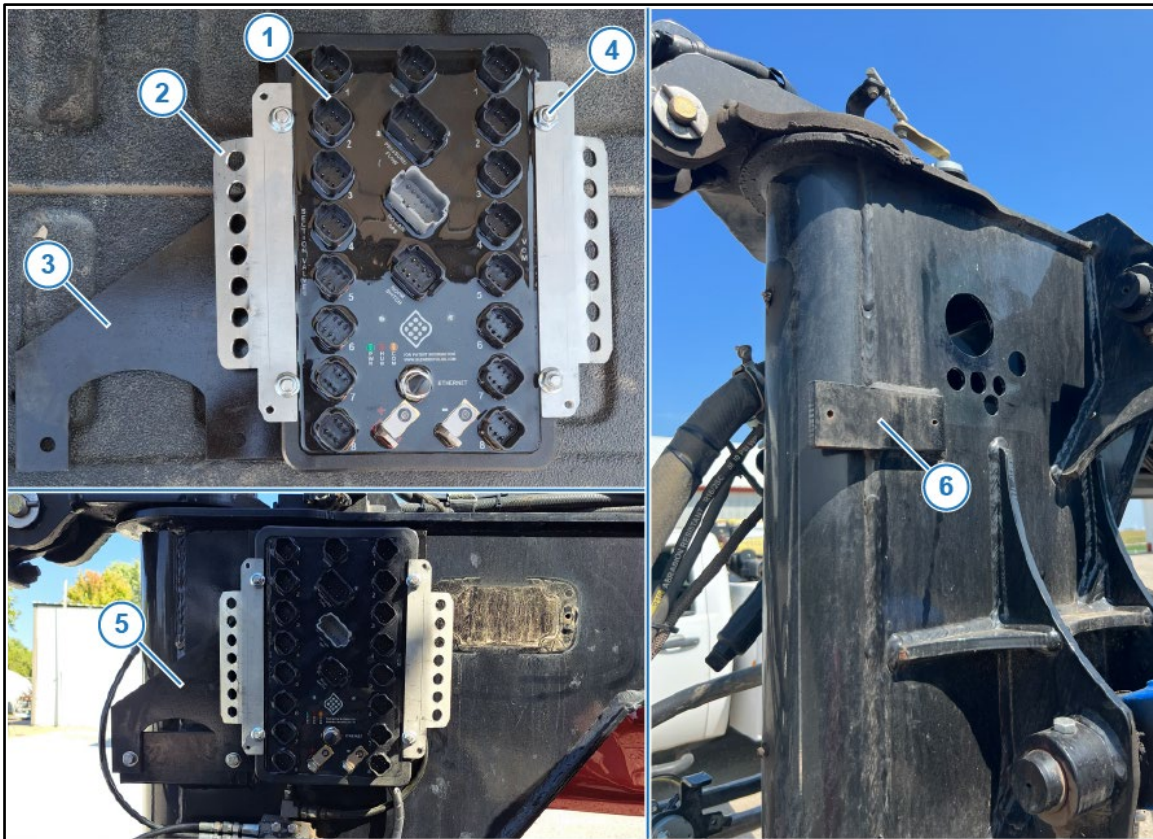

Figure 3 — Vertical Mounting Bracket Installation
7. *Figure 3:* Install the Envelop Hub (1) and strain relief brackets (2) onto the mounting bracket (3) using the included 5/16" x 2 1/4" bolts and 5/16" nuts (4).